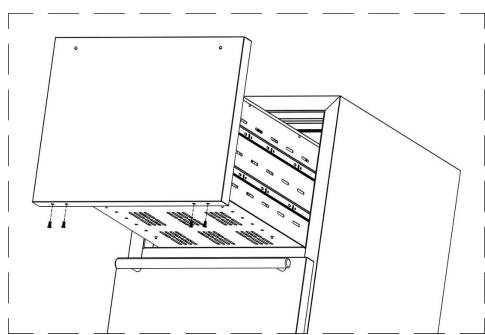

Fig. 1
2. Remove the four screws from the bottom of the drawer and set them aside for later use. (**Fig. 1**)